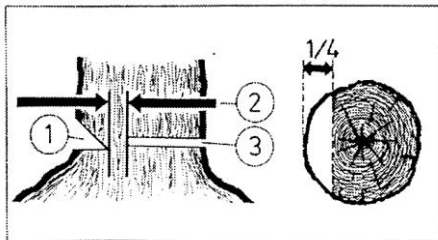

Fig. 11
First, the undercut must be cut into a tree trunk in order to determine the direction in which the tree is to fall. Undercut, should have a depth of about one quarter of the diameter of the trunk (1). You must first cut the saw down, at an angle, and then horizontally across the trunk to meet the upper cut (Fig.11). The incision (3) must be above the lower undercut (1). This cut should not be done to the end, but leave the strap without cutting (2), otherwise the tree can sleep out of control. Uncut timber should have a width of about one tenth of the trunk diameter. Wedges should be guided to the slit at the right time. Only wedges made of wood, aluminium or plastic can be used, never cast iron or steel wedges.